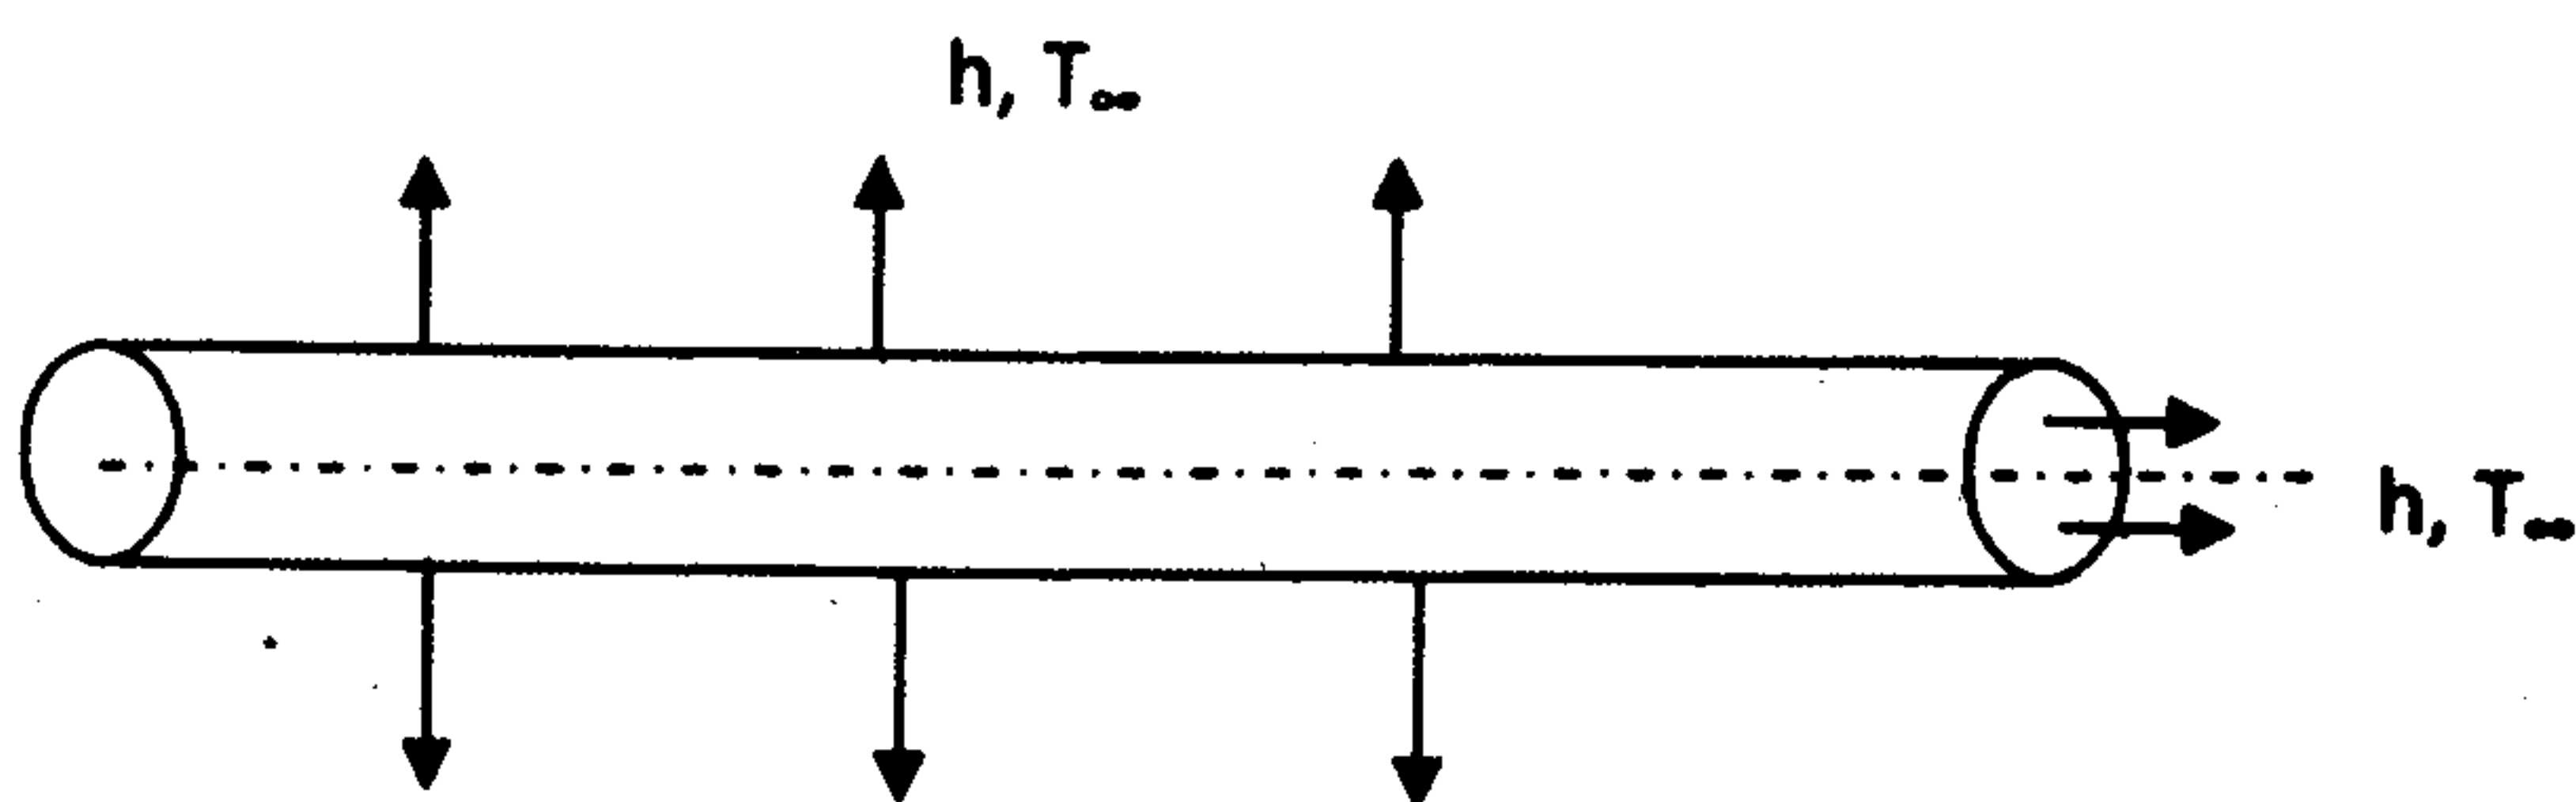

Figure 15 (a)
15. (a) The figure 15 (a) shows a uniform Aluminum fin of diameter 25 mm. The root (left end) of the fin is maintained at a temperature of $T_\infty = 120$ °C, convection takes place from the lateral (circular) surface and the right (flat) edge of the fin. Assuming $k = 200$ W/m °C, $h = 1000$ W/m² °C and $T = 20$ °C, determine the temperature distribution in the fin using one dimensional element, considering two elements.